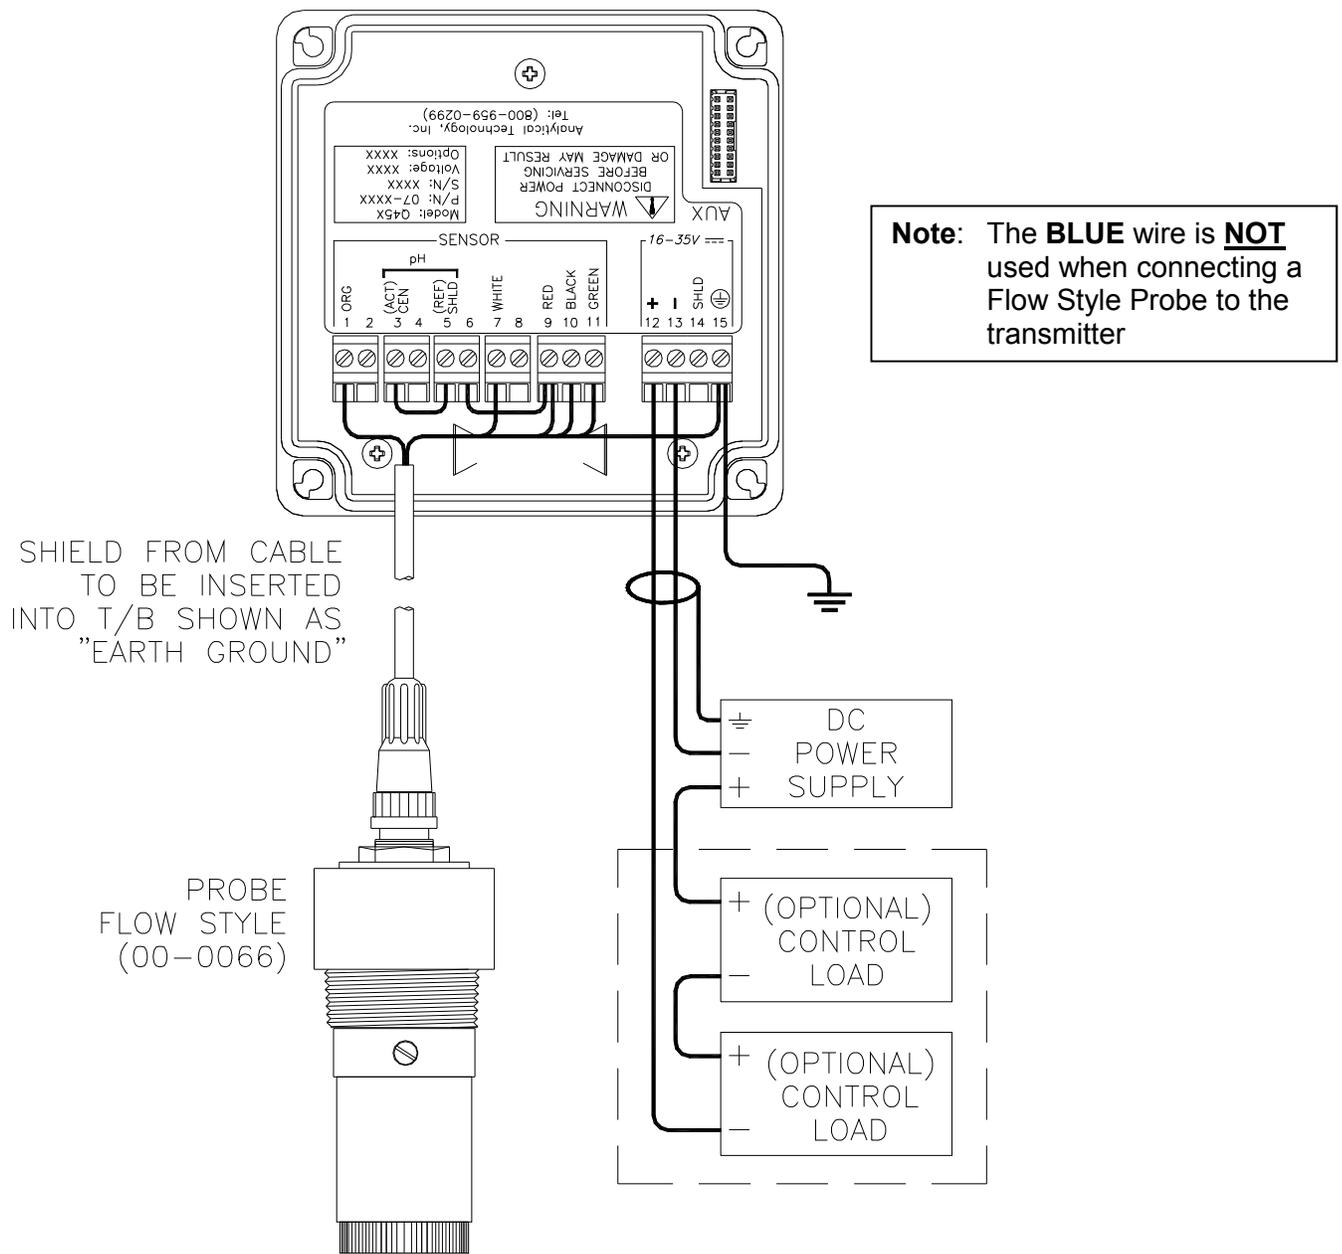

Figure 12 - Loop Power Sensor Connection
2. Figure 12).
Figure 12 for further details. Any twisted pair shielded cable can be used for connection of the instrument to the power supply. Route signal cable away from AC power lines, adjustable frequency drives, motors, or other noisy electrical signal lines. Do not run sensor or signal cables in conduit that contains AC power lines or motor leads.
Sensor connections are made in accordance with Figure 12 or **Error! Reference source not found.** The sensor cable can be routed into the enclosure through one of cord-grips supplied with the unit. Routing sensor wiring through conduit is only recommended if a junction box is to be used. Some loose cable is needed near the installation point so that the sensor can be inserted and removed easily from the flowcell.